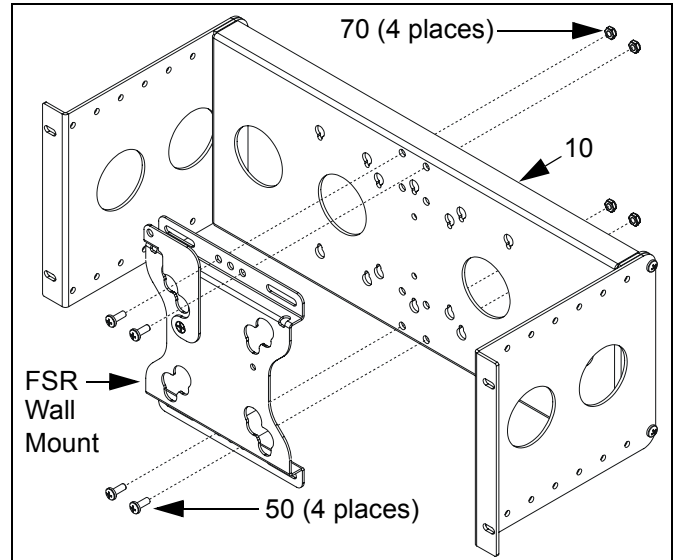
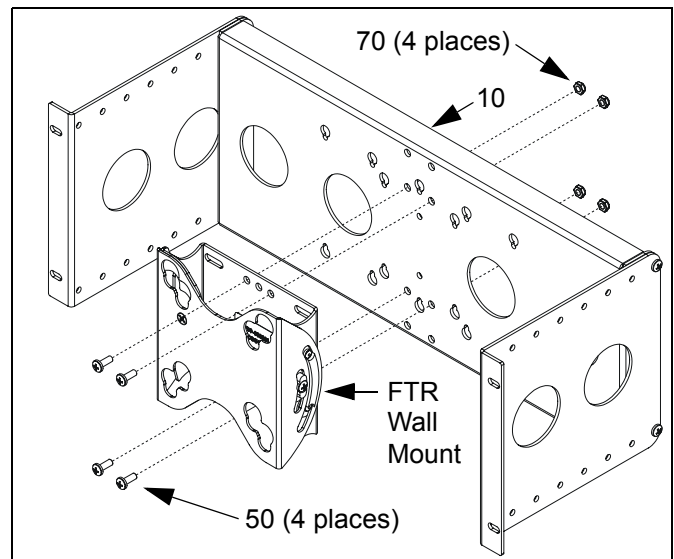

Figure 8: Install FSR Wall Mount
Figure 9: Install FTR Wall Mount
2. Using Phillips screwdriver and 7/16" wrench, install four screws (50) through wall mount and bracket (10), into nuts (70)(See Figure 8)(See Figure 9). Tighten screws (50).